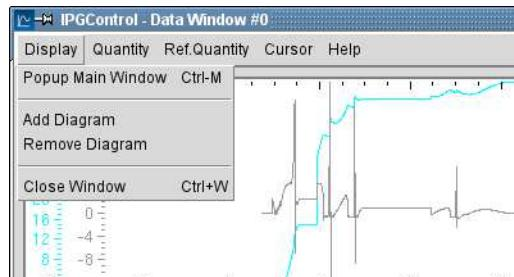

Figure 3.38: Add Diagrams to the active Data Window
- Go to "Display > Add Diagram" in the Data Window menu panel. To set the white background as in Figure 3.38 go to the IPGControl GU and choose from "Settings > White Diagram Background".